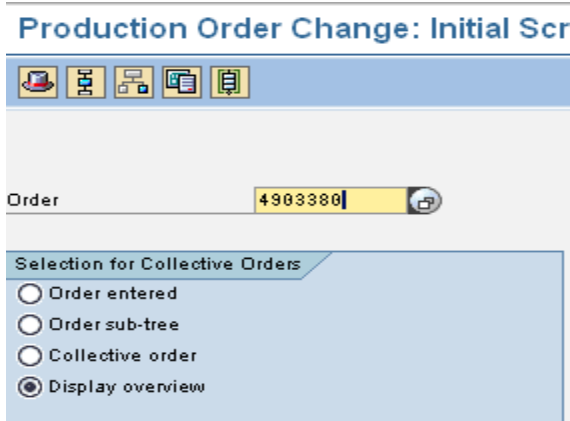

Fig. 21
10.4. Enter the production order number in the "Order" text box (Fig. 21)